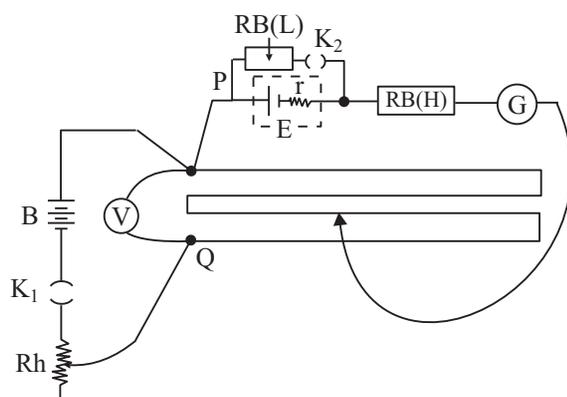

Fig. 23.3: Circuit diagram of a potentiometer.
- (vi) In the circuit arrangement shown in Fig. 23.3 if  $l_1$  is the length of the potentiometer wire between the terminal P and the null point when the cell is in open circuit then
- (i) Clean the ends of the connecting wires with the sand paper and make tight connections as per the circuit diagram shown in Fig. 23.3.